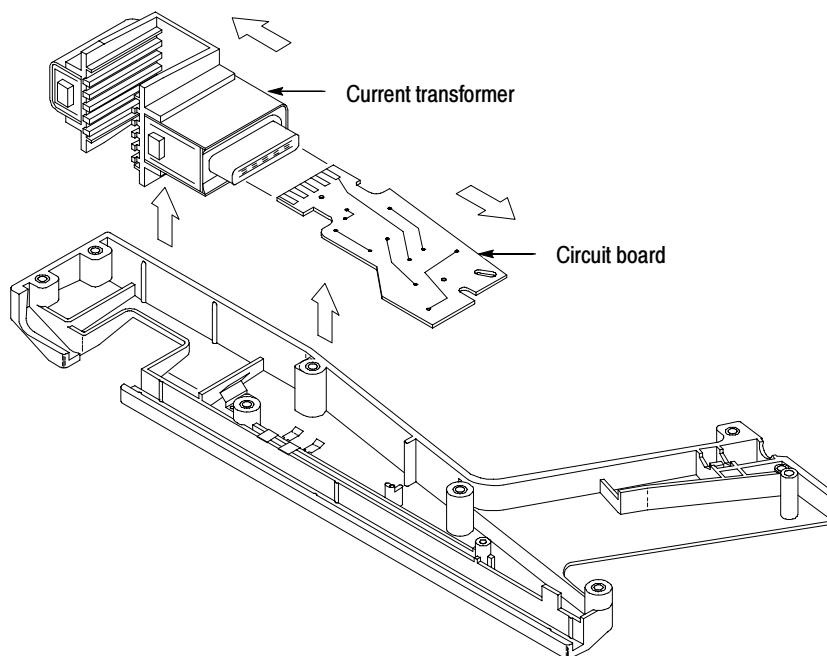

Figure 9: Removing the current transformer
8. To remove the current transformer, lift the assembly out of the probe as shown in Figure 9 and unplug it from the circuit board.